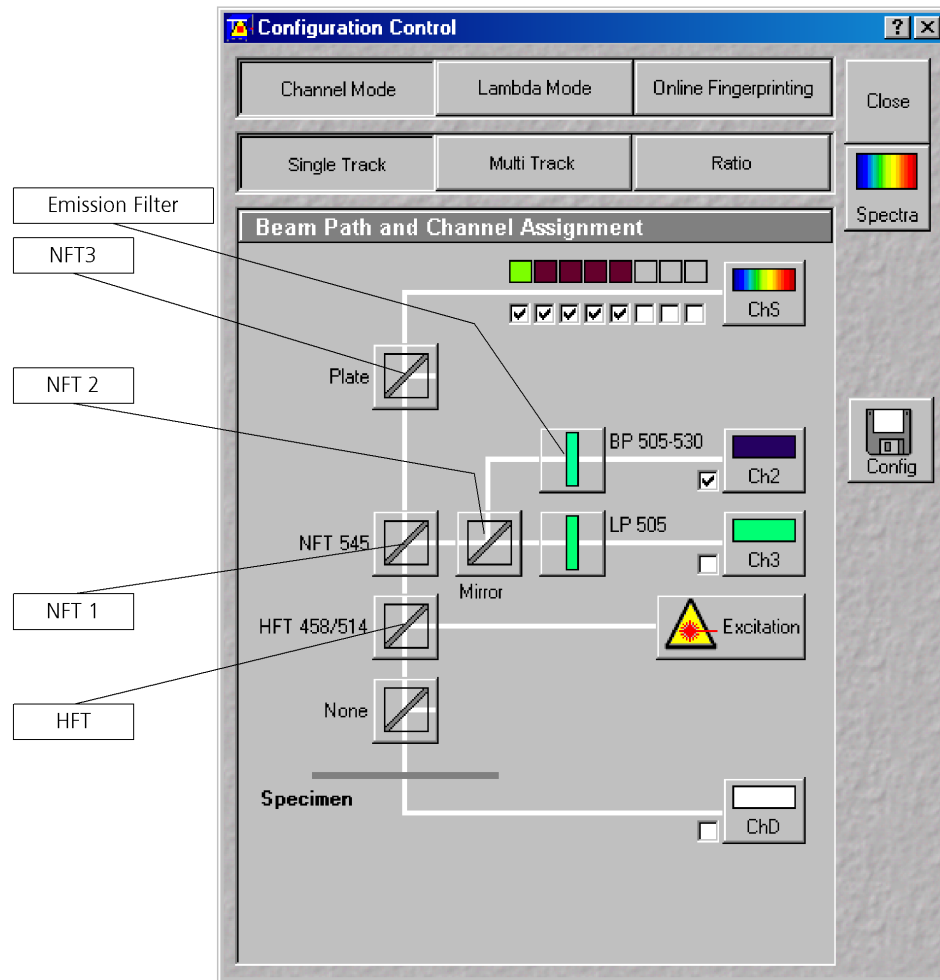

Fig. 4-39 Configuration Control window
The assignment of the numbered emission filters (1-4), NFT secondary dichroic beam splitters (1-3) and HFT main dichroic beam splitters in the **Beam Path and Channel Assignment** panel is shown in the **Configuration Control** window (Fig. 4-39). The numbers of the emission filters correspond to those of the channels lying behind (PMT photomultipliers).
(2) Beam path - HFT main dichroic beam splitters and NFT secondary dichroic beam splitters
- On the **Beam Path and Channel Assignment** panel, click on the HFT main dichroic beam splitters  (see Fig. 4-39).